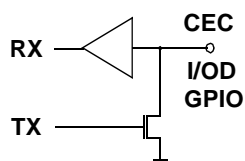

Figure 3. Typical μ C I/OD Driver
The Consumer Electronics Control (CEC) line is a high level command and control protocol, based on a single wire multidrop open drain communication bus running at approximately 1kHz (See Figure 3). While the HDMI link provides only a single point-to-point connection, up to ten (10) CEC devices may reside on the bus, and they may be daisy chained out through other physical connectors including other HDMI ports or other dedicated CEC links. The high level protocol of CEC can be implemented in a simple microcontroller or other interface with any I/OD (input/open-drain) GPIO.